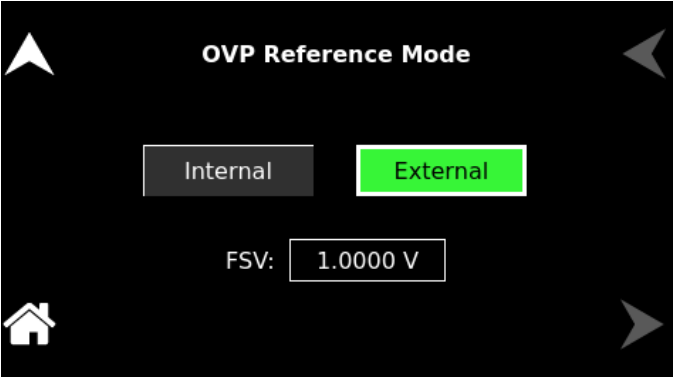

Figure 10-208. OVP Reference Mode
- **OVP Ref Mode:** Configures the Over Voltage Protection (OVP) Reference Mode. When the OVP Reference Mode is set to External, the OVP setting field on the Dashboard screen and the ‘Protection’ option in the Configuration screen will be disabled, and these OVP fields will display as ‘EXT’ refer to Figure 10-208.